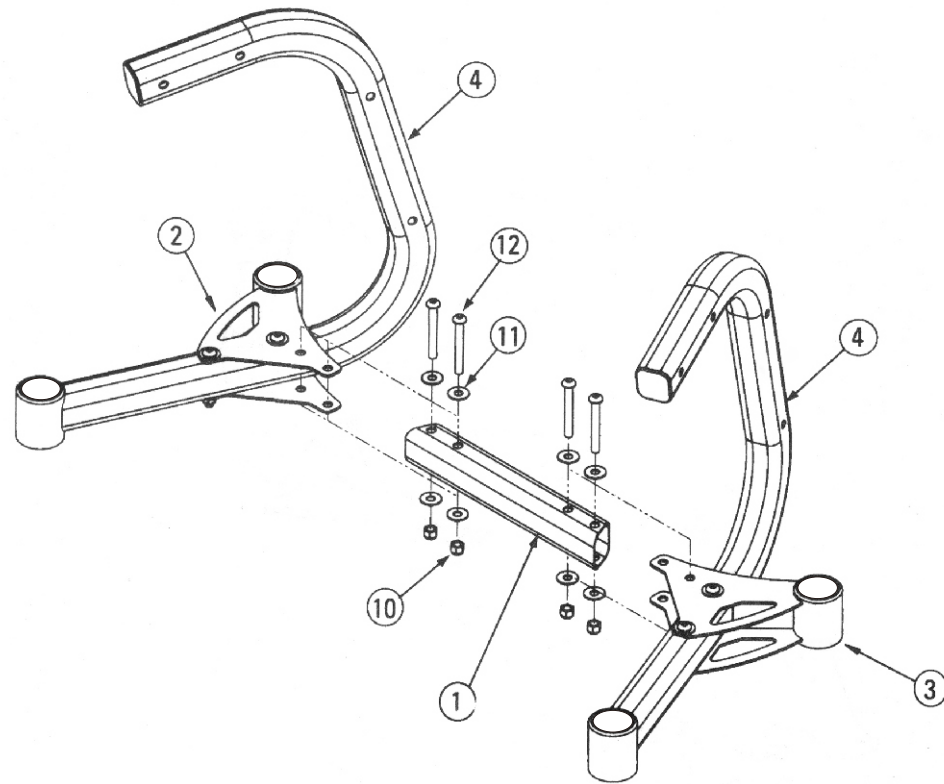

Figure 3
**3-1** Attach the Bottom Cross Brace (#1) to the Rear Left Stabilizer (#2) and Rear Right Stabilizer (#3) using the hardware shown in **Figure 3**. Make sure that the narrower edge of the Cross Brace (#1) is closer to the Stand Leg (#4) uprights.